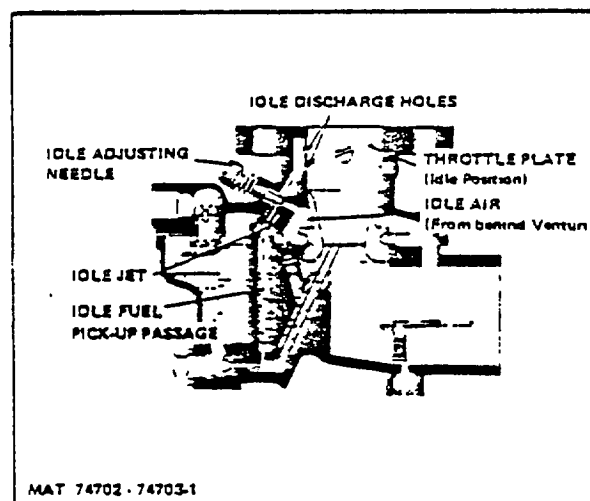

Figure 4. Idle System
2. Idle System. At idle speed the throttle plate is advanced slightly to expose the upper idle discharge hole to engine manifold vacuum (suction), see Figure 4. This suction is transmitted to the idle jet through a passage connecting the idle discharge holes with the idle jet. Fuel for idle is supplied through the main jet to a well at the bottom of the discharge jet. The fuel for idle flows out of this well through a restricted drilling at the bottom of the idle fuel pick-up passage. From here the fuel is metered through the idle jet calibration before entering the vacuum passage leading to the idle discharge holes. As the fuel leaves the idle Jet it is mixed with air that originates back of (or from behind) the venturi. The position of the idle adjusting needle in this passage controls the suction on the idle jet and thereby the idle fuel air mixture. Turning the idle adjusting needle IN, (clockwise) results in a greater suction on the idle jet with a smaller amount of air admitted to give a richer mixture. Turning the needle OUT (counterclockwise) increases the amount of idle air admitted and reduces the suction on the idle jet resulting in a leaner mixture. This idle fuel-air mixture is then discharged through the idle discharge holes into the air stream.